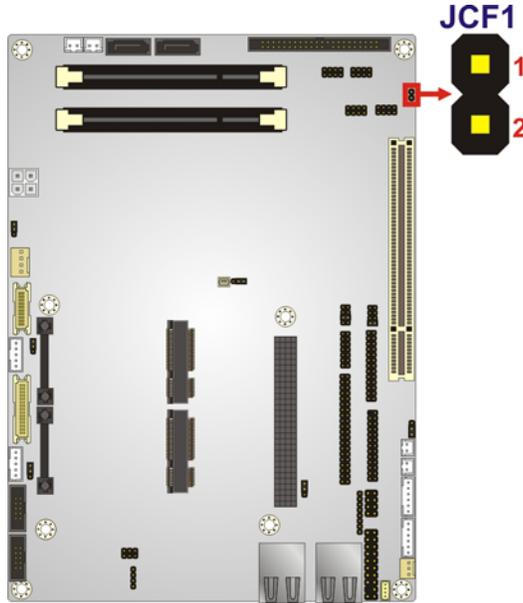

Figure 4-7: CompactFlash® Setup Jumper Location
- Jumper Location:** See **Figure 4-7**